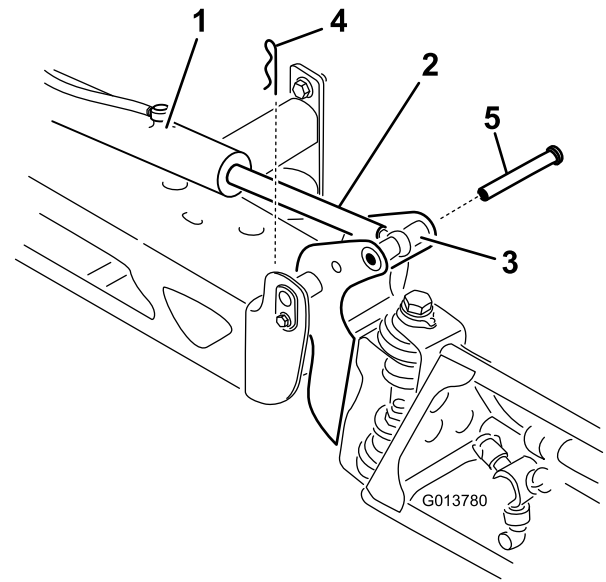

Figure 65
2. Remove the cotter pin from the pivot pin (Figure 65).
3. Lift up on the boom, remove the pin (Figure 65), and slowly lower the boom to the ground.
7. While holding the boom, insert the pin through the boom pivot and actuator rod (Figure 65).